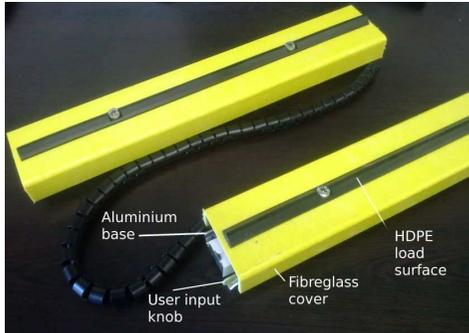

Fig. 1. Wireless talking scales items
- **Wireless Talking Scale** model 2 (one pair of cleats per hive, see figs. 1, 2, 3 & 4)